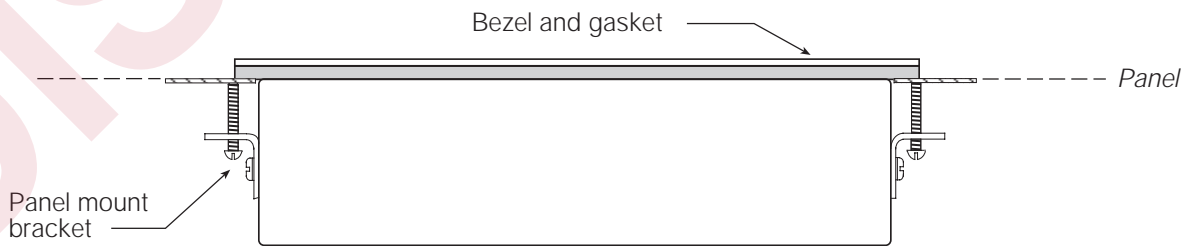

Figure 5. Panel Mounted Indicator (Top View)
14. Thread the four 10-32 x 1 3/4" round-head machine screws into the panel mount brackets. Tighten until the indicator is held securely against the panel. Figure 5 on page 2 shows a top view of a completed panel mount installation.